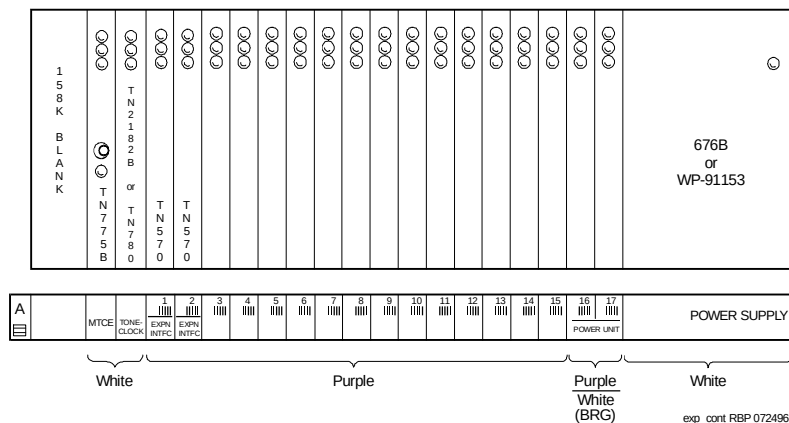

Figure 8-7. Circuit-Pack Locations in DEFINITY ECS Release 5 Expansion Control Cabinet
1. See WARNINGS. Replace the circuit packs and power supplies in port cabinets "D" and "E" if they were previously removed. See Figure 8-7.